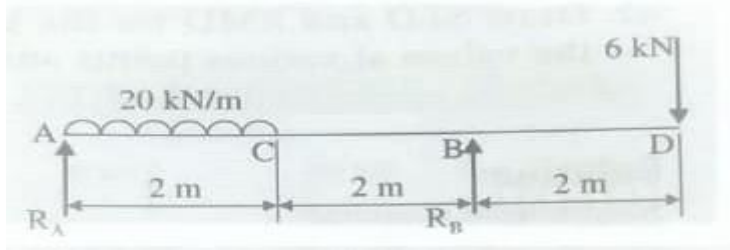

Fig Q 4(b).
- b. Draw BMD and SFD for the overhanging beam shown in Fig Q 4(b) clearly indicate the point of contra flexure. **10** (3 : 2 : 2.2.4)